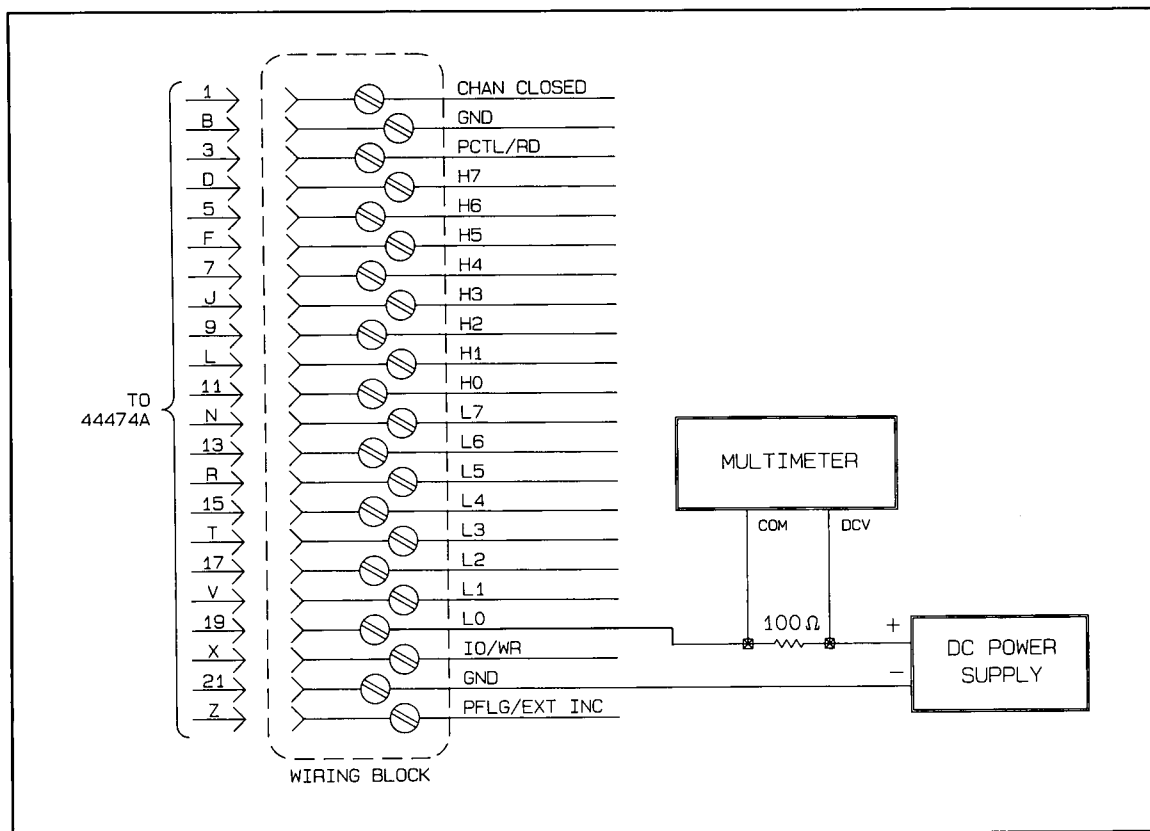

Figure 12-5 Data Line Low Output Test
5. Set the dc power supply to deliver 0Vdc. Connect the dc power supply, the multimeter, and the 100 ohm resistor to line 0 of the LO BYTE as shown in Figure 12-5.
9. Set the dc power supply to deliver 0Vdc. Connect the dc power supply, the multimeter, and the 100 ohm resistor to line 0 of the LO BYTE as was done in step 5 (see Figure 12-5).